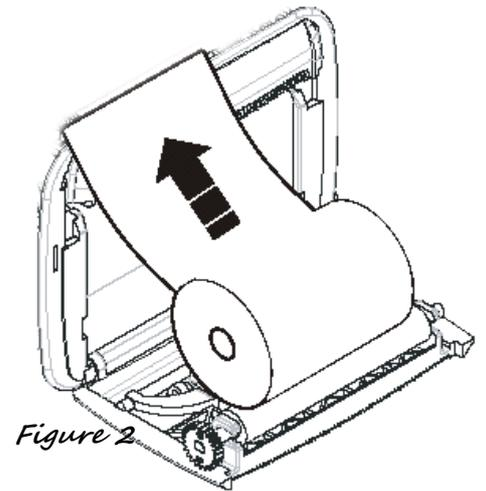

Figure 2
- Position the paper roll and ensure that the paper unrolls in the right direction as shown in figure 2;